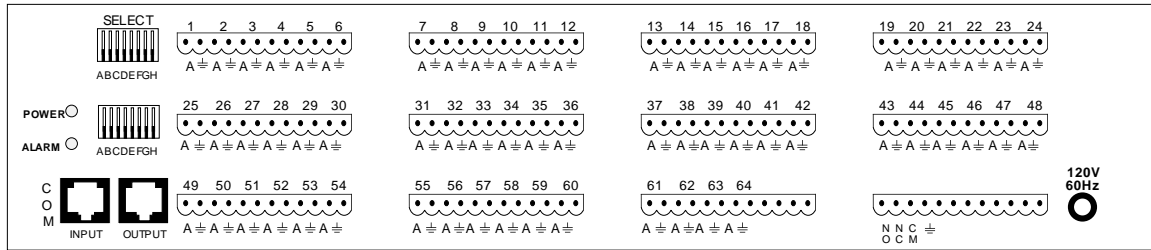

Figure 1 - AD2096A Alarm Interface Unit Rear Panel
Three 8-position DIP switches are used for AD2096A setup. The first two switches, S1 and S2, are located on the rear panel (see Figure 1, page 1). The top switch, S1, identifies the block of 64 alarm contacts (out of a possible 1024) which are connected to the AD2096A. The lower switch, S2, configures the AD2096A for either Normally Open (NO) or Normally Closed (NC) alarm contacts within each group of eight inputs of the selected block. Each group may be set to a different input type. The third switch, S3, is located internally on the AD2096A PC board (see Figure 3), and is used to select the RS-232 COM ports baud rates.